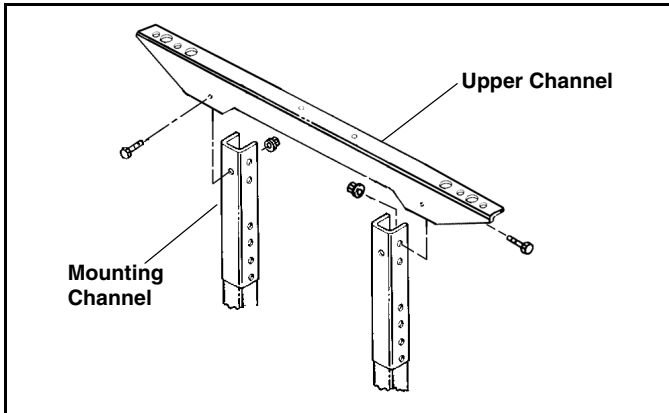

Figure 6
3. Attach the Upper Channel (#96105090) to the top of the mounting channels using four 3/8" x 1 1/4" Capscrews (#98009034) and Nylock Nuts (#98009009) as shown in Figure 6.